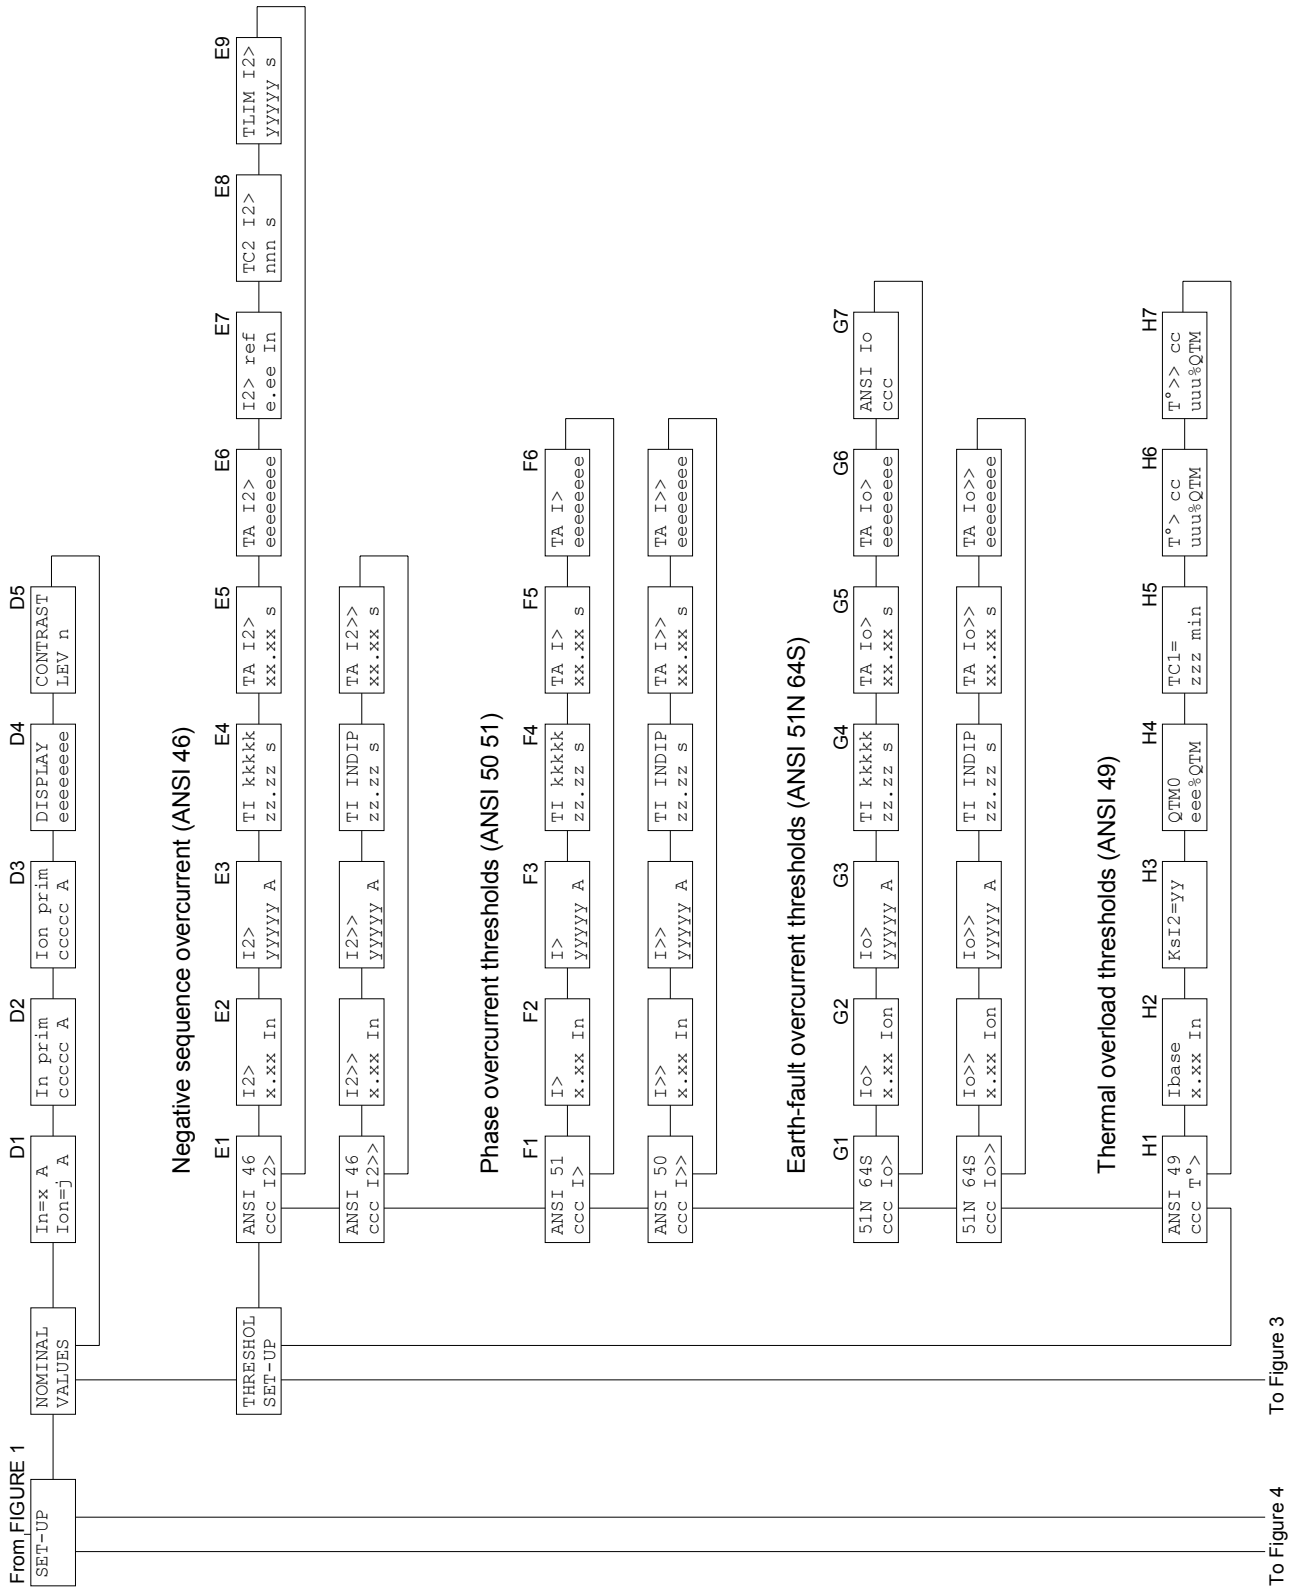

Figure 2
- 5) **CONFIRM** the new protection relay set-up at the visualization CONFIRM PROG? (Fig. 2, ref. J1) within 5 minutes depressing the push-buttons [ENTER] and  up to visualize **YES** and [ENTER] again to confirm.
When the output relays test is selected (Fig. 2, ref. L10) it is possible to command an output relay (one at the time) to trip from the current status allowing functional tests on electrical plants.
5.5 Nominal values set-up (fig. 2)**D1 - NOMINAL CURRENT SELECTION In (programmable)**